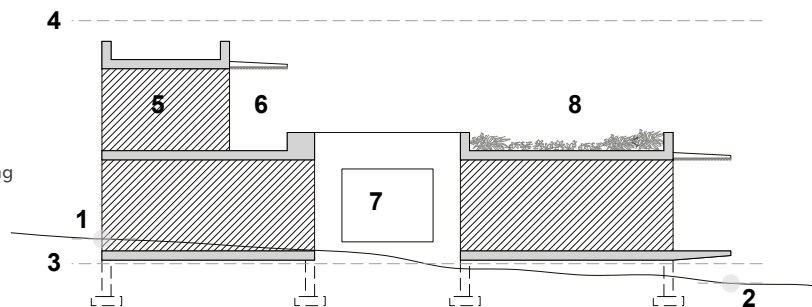

Figure 8:
The base level is determined by calculating the average between the highest point of ground level (GL) immediately adjacent to the building with the lowest point of ground level immediately adjacent to the building (refer to figure 8).